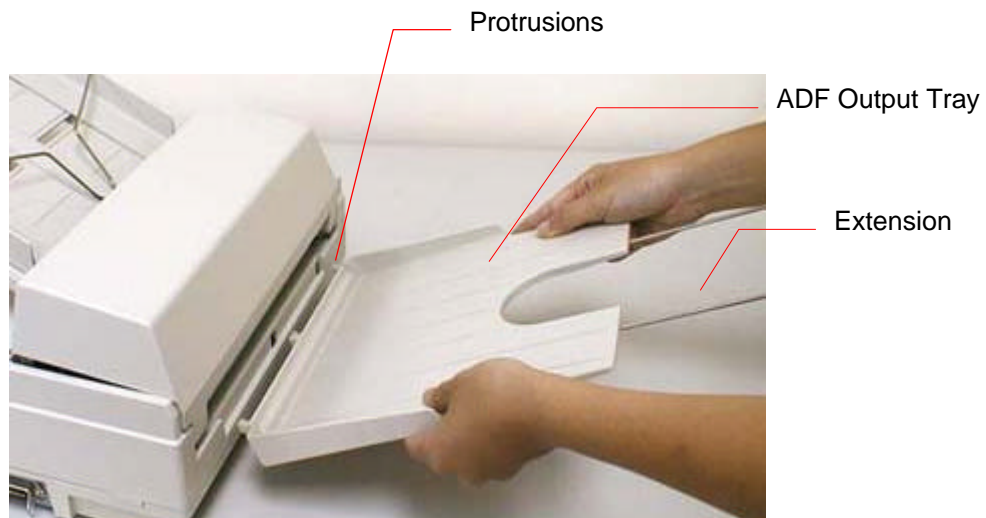

Figure 2-5 Install the ADF Output Paper Tray
- i). Hold the output paper tray some 30 degrees aslant as shown in Figure 2-5.